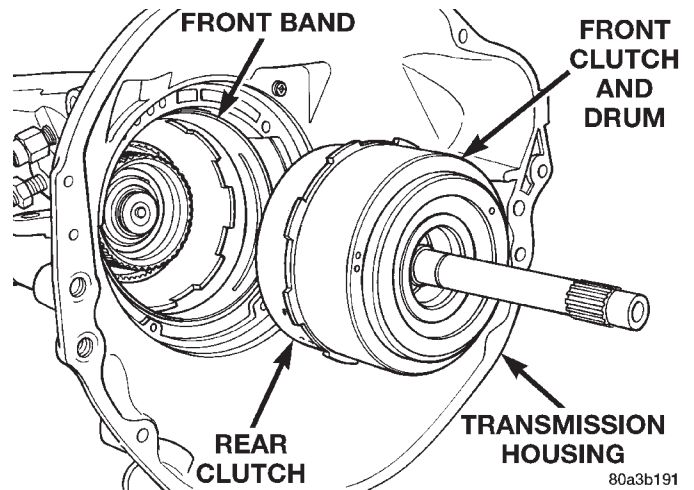

Fig. 107 Installing Front/Rear Clutch
(34) Install front and rear clutch units as assembly (Fig. 107). Align rear clutch with front annulus gear